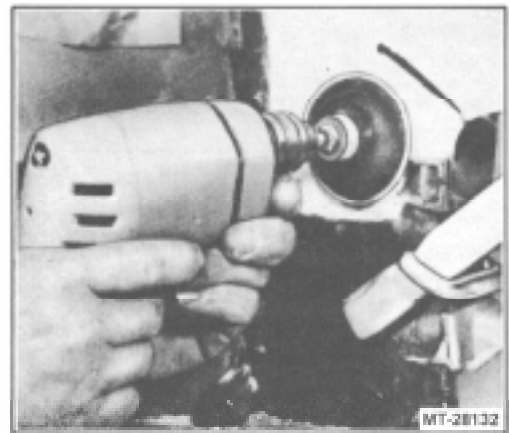

Figure 34. - Sanding Underside of Repair Area (Crack Shown - Typical)
14. Sand the underside of the repair area with 80 grit (or less) sandpaper to create a rough bonding surface approximately 2 inches from the center of a crack (Figure 34) or 2 inches back from the edge of a fracture.